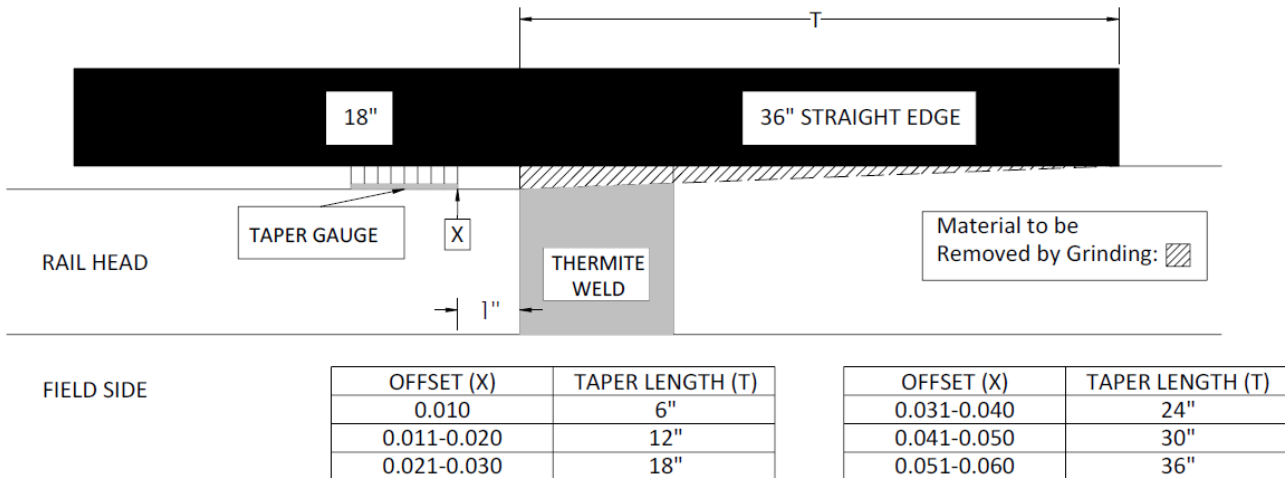

Fig. 29.5
- b. Determine if a horizontal offset condition exists on the gauge face of the completed Thermit[®] weld due to rail manufacturing variance, misalignment, or curve wear differential. (See Figure 29.5)
- ❖ Insert the taper gauge between the rail head and the straight edge, approximately one (1) inch from the weld fusion line.
- ❖ Determine the length of taper required from the chart in Figure 29.5
- The weld should be flush with the low rail and taper back the distance specified in Figure 29.5, up to a maximum of three (3) feet; and
- b. Horizontal offset may exist on the field face of the completed Thermit[®] weld due to: Rail manufacturing variance or misalignment, curve wear differential. (See fig. 29.5),